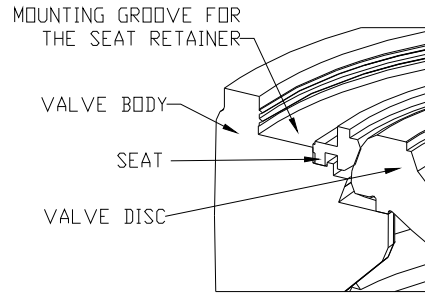

Fig.16
- 12.1.4 Insert the seat to the seat-mounting groove. The seat is somewhat floating because there is an interference of the seat. (Fig.16)